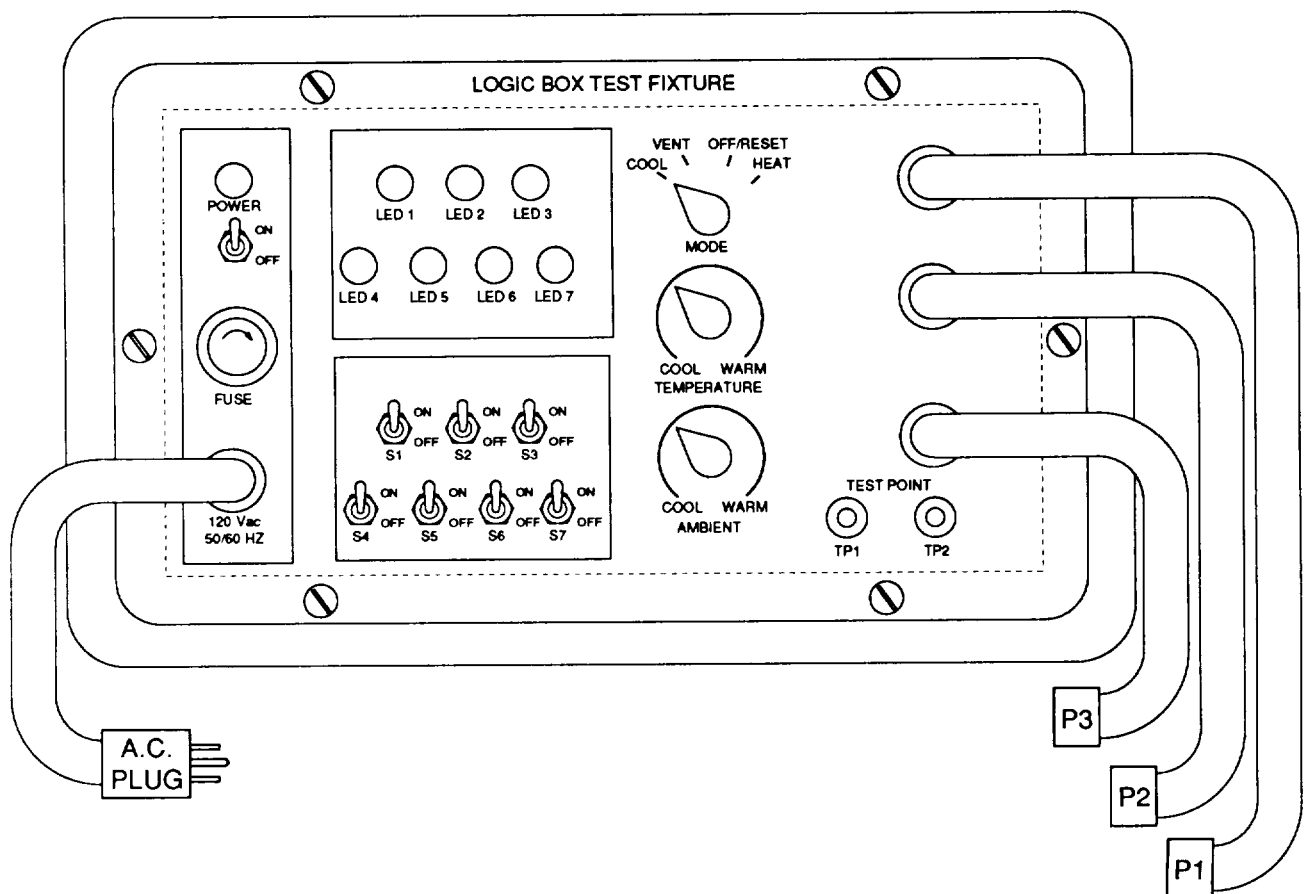

Figure 5-2. Logic Box Test Fixture
- (1) if a complete test fixture is being used, connect it to a standard convenience outlet and be sure the POWER switch is in the OFF position. (See figure 5-2.) if a test fixture was fabricated per schematic (appendix F, figure F-48), connect the power supply to appropriate power source and adjust output to 12 ± 0.5 volts dc. Be sure it is turned off and connected to the test fixture where indicated.